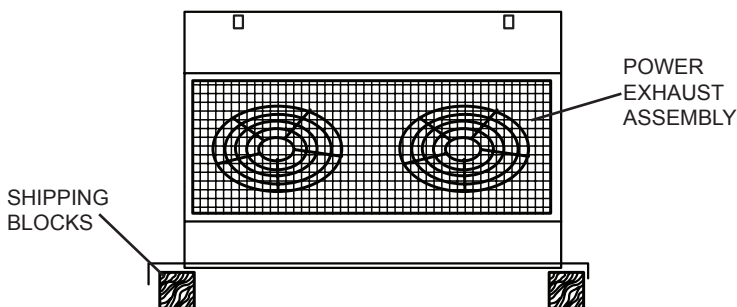

Figure 3 - Shipping Block Removal
7. Remove the shipping blocks from the bottom of the accessory vertical power exhaust. (See Fig. 3.)